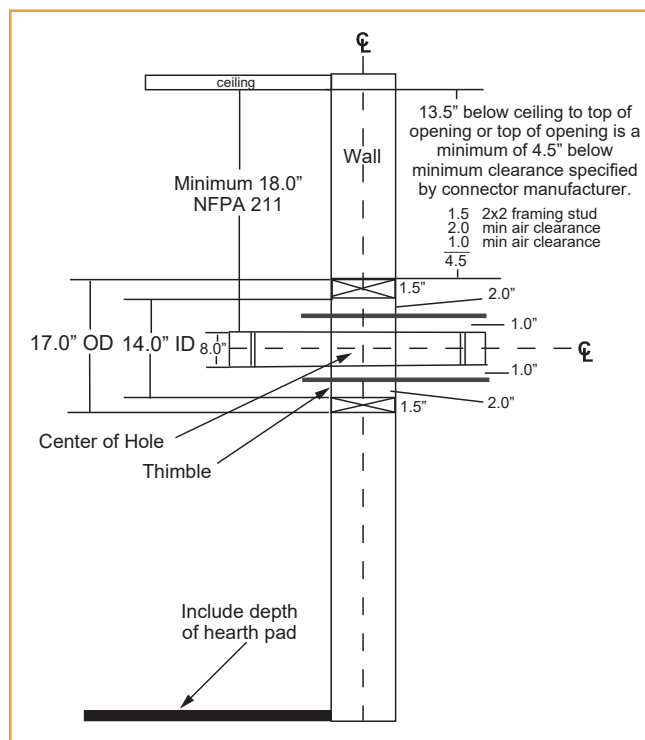

Figure 20.2
- Top of wall opening is a minimum of 13-1/2 inches (343mm) from ceiling or 4-1/2 inches (114mm) below minimum clearance specified by chimney connector manufacturer. **NFPA 211** minimum vertical clearance of 18 inches (457mm) from chimney connector and ceiling or minimum recommended by chimney connector manufacturer (**Figure 20.2**).
1. Open inside wall at proper height for the chimney connector to entry the masonry chimney (**Figure 20.2**).
3. Construct a 17 inch x 17 inch (432mm x 432mm) outside dimension frame from 2 x 2 framing lumber to fit into wall opening. Inside opening of frame should be no less than 14 inch x 14 inch (356mm x 356mm) (**Figure 20.2**).